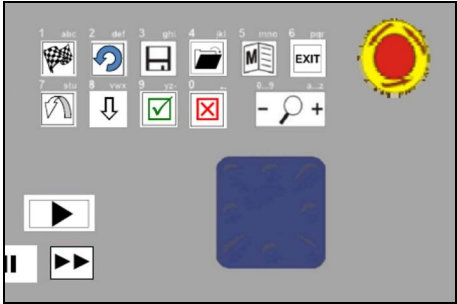

Fig. 10: Function keys
- ▶ Enter your login data by using the function keys (see Fig. 10).